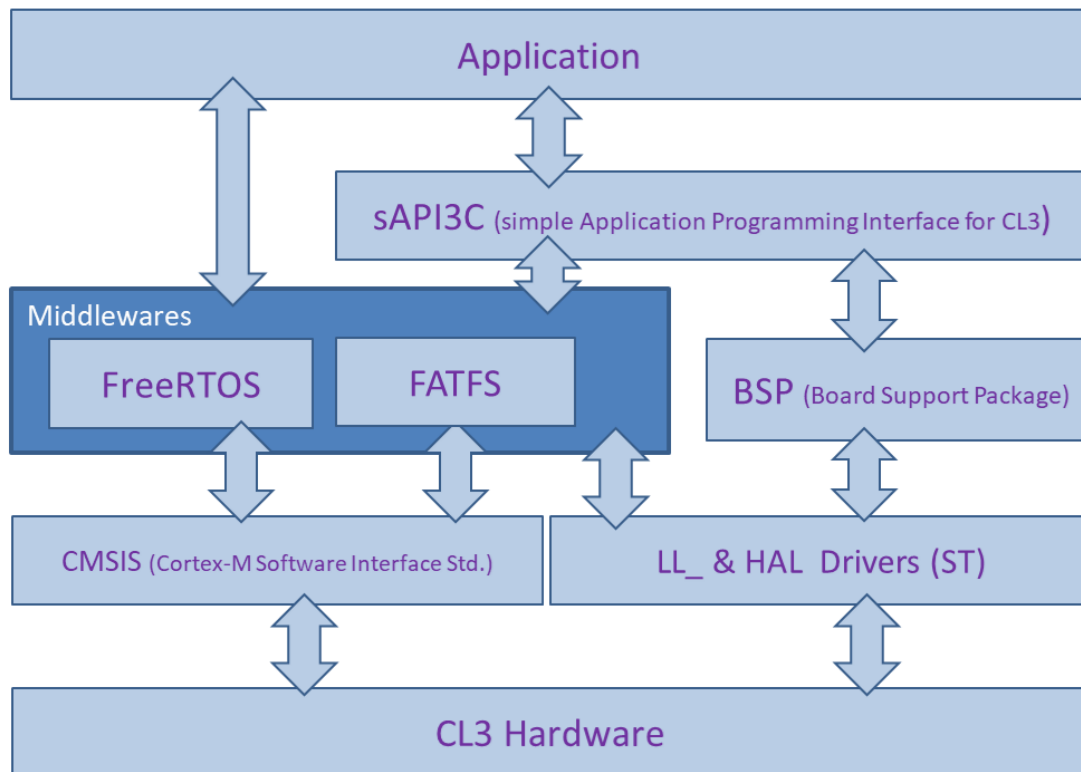
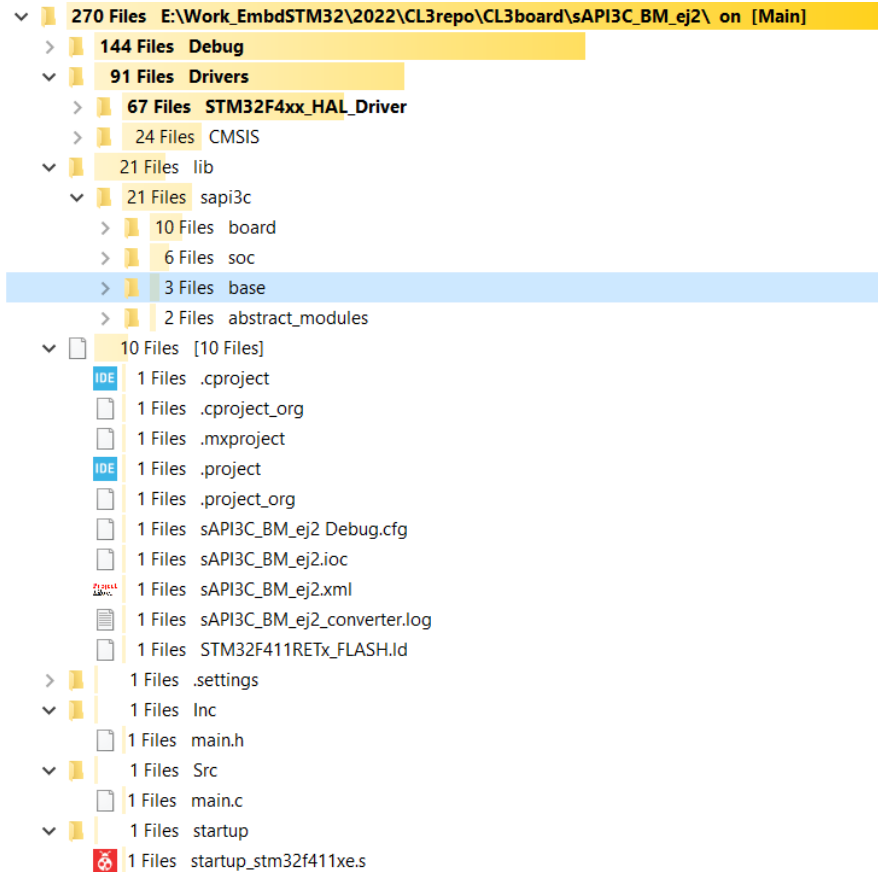

Figure 4 – Programming model layers for CL3 including sAPI-3C
Figure 12 – Example 2 directory structure
The complexity of the ARM M4/F microcontroller core (licensed by ST and other vendors) and its peripherals (vendor-specific) requires a series of firmware layers to deploy embedded applications. A generic distribution of these layers for the CL3 boards is shown in Figure 4. The upper application layer is user-defined, and the intermediate layer called sAPI-3C is inspired in the original sAPI (*simplified Application Program Interface*, by E. Pernia [ref09] written for the CIAA project [ref10]) provides a number of modules which solve many typical requirements of embedded applications. In the lower levels, directly on top of the hardware are the standard CMSIS layers produced by ARM, and some of the *Low Level* (LL\_) driver libraries produced by ST for the STM32 series of microcontrollers. Some of the more complex modules (SDIO, USB) require higher level (HAL\_ for *Hardware Abstraction Layer*) libraries also produced and continuously updated by ST. The middle level contains open-source intermediate level packages (*middleware*) from third-party sources, in Figure 4 these are FreeRTOS [ref10] and FATFS [11] which can be used on many different platforms. At the same level the BSP (Board Support Package) contains specific peripheral initialization required by the board with functions such as internal clock configuration *SystemClockConfig()*, and is run on startup for all applications.
In disk space, the sAPI3C\_BM\_ej2 example has the layered structure and components which were mentioned in section 2, Figures 4 and 5, as shown in Figure 12. It is not recommended to modify or edit these files outside the Eclipse IDE.